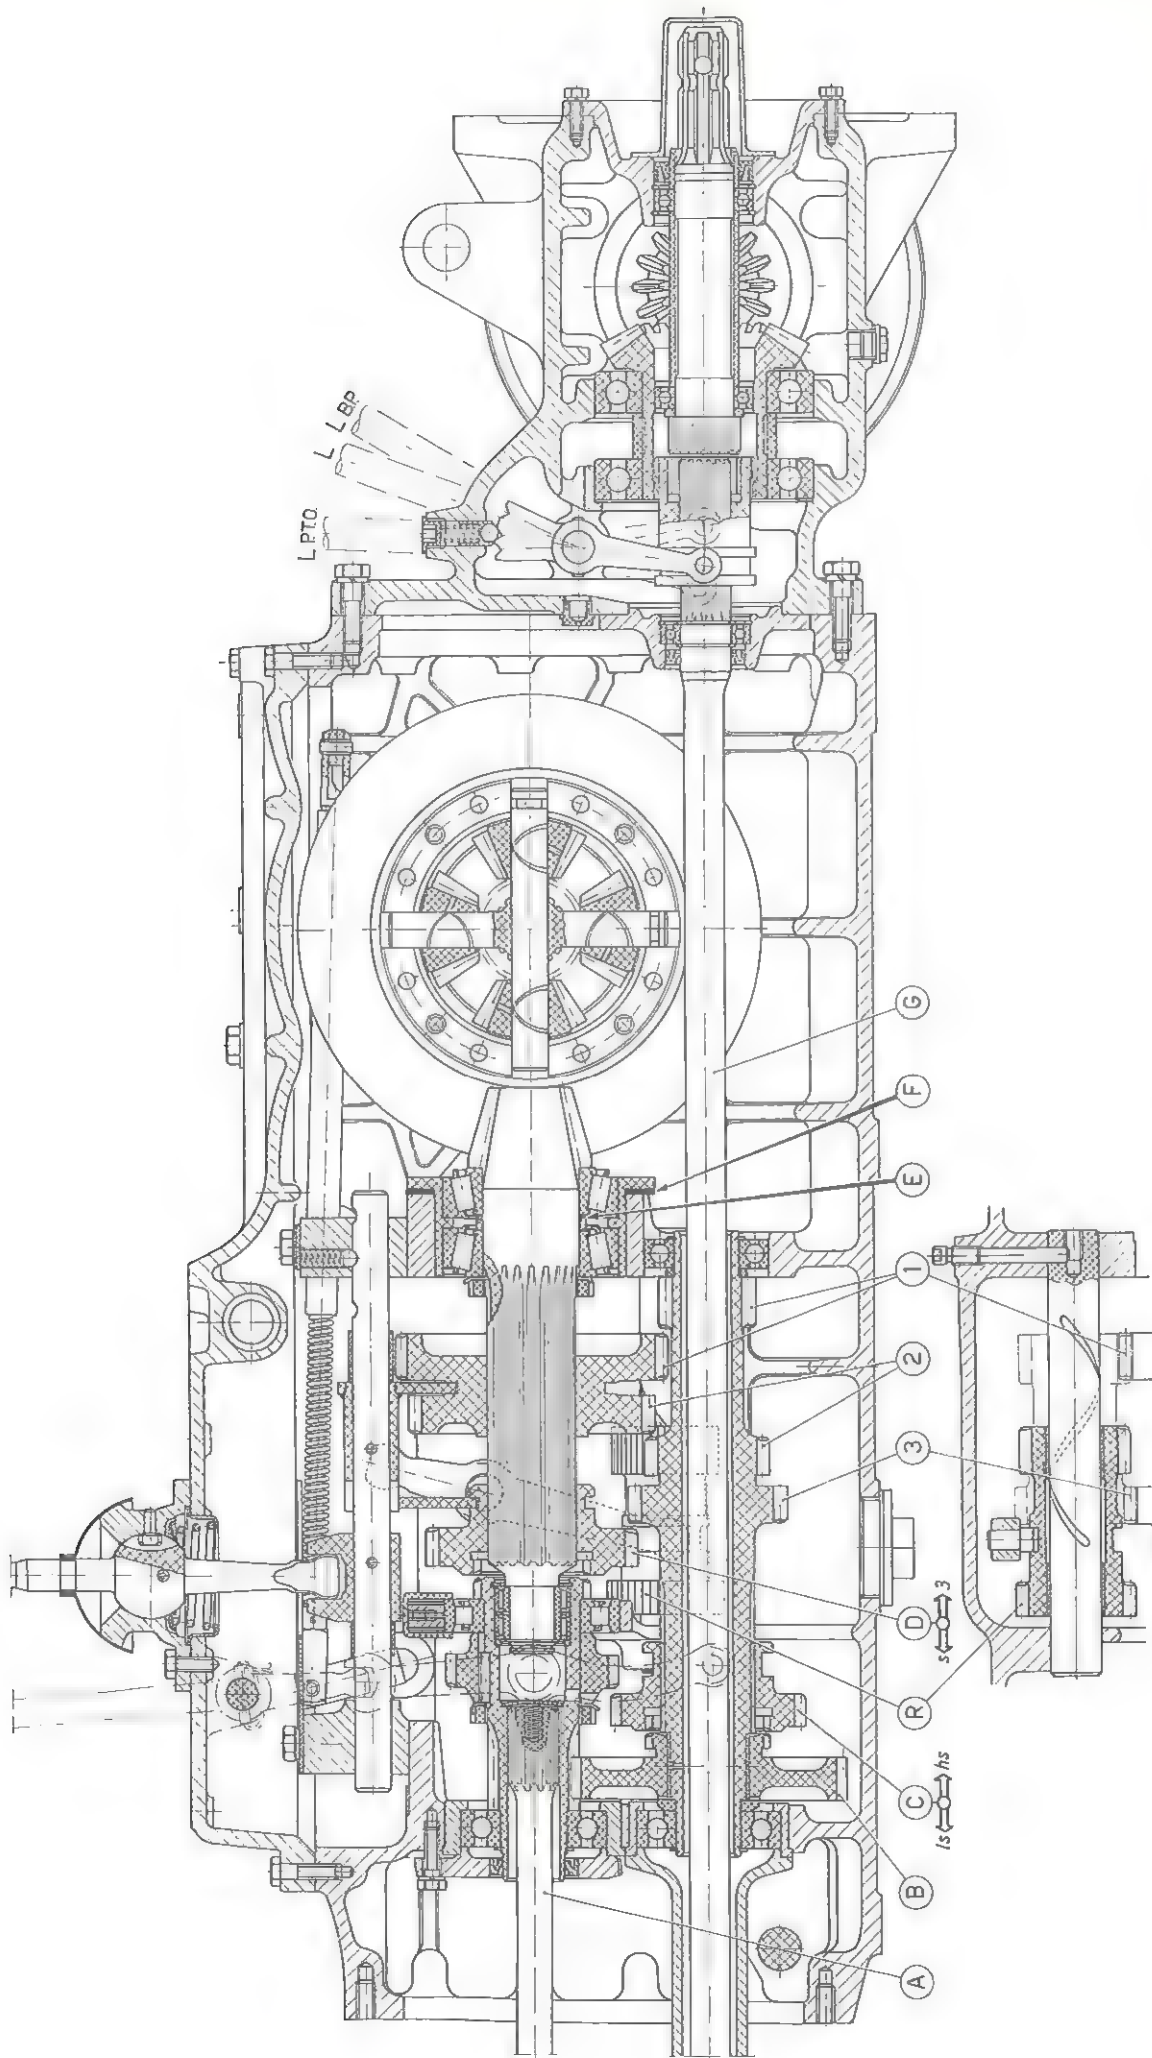
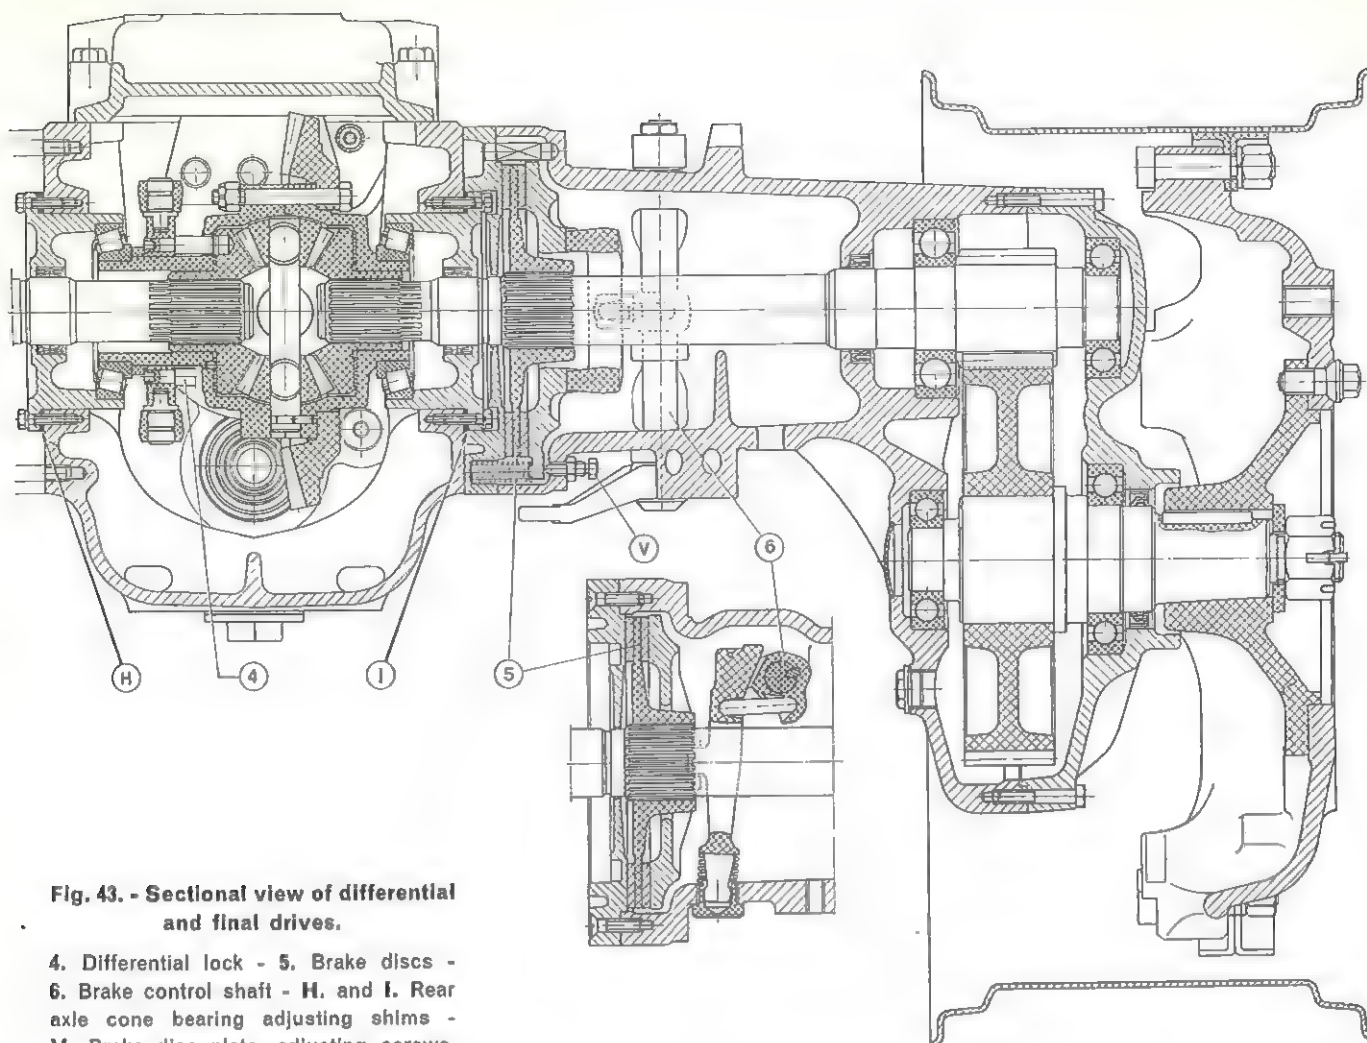

Fig. 41. - Longitudinal section of gearbox, bevel pinion and P.T.-O. unit.
Fig. 43. - Sectional view of differential and final drives.
Sectional views of the gearbox and rear transmission are shown in fig. 41 and fig. 43.
- place a suitable number of adjusting shims (F, fig. 41) in between the bevel pinion bearing sleeve and housing in order to establish between the pinion front end and the differential housing a clearance equal to:
Mount on the bevel pinion shaft the inner race with rollers of the bearing resting against the pinion shoulder, then the spacer, a pack of adjusting shims for a total nominal thickness of 0.110 in. (E, fig. 41), the bearing housing with the outer races and finally the inner race of the second roller bearing.
Mount the bevel pinion shaft with its gear clusters in the gearbox and after finding the shim pack thickness (F, fig. 41) through the method already described in the section concerning pinion face marking, lock the bearing housing using the proper screws.
Measure the clearance existing between the bearing housing side and the transmission housing face and add 0.008 in. to 0.012 in. (0,2 to 0,3 mm) to it in order to obtain the required thickness of adjusting shims (I, fig. 43) and a backlash of 0.006 to 0.010 in. (0,15 to 0,25 mm) between the bevel pinion and ring gear teeth. Fit the adjusting shims and lock the housing in place with two screws at 180° from each other. Repeat the same operation with the bearing housing on the differential lock side and build the pack of adjusting shims (H, fig. 43) according to the previously measured clearance. Fit the adjusting shims and lock the housing in place as above.
Exert a side thrust on the bevel gear in both directions to check the adjustment of the conical roller bearings. If end play exists, diminish the pack thickness of adjusting shims H, fig. 43. Increase it, instead, if there is no end play or possibility to rotate the bevel ring gear.
Apply a dial gauge on one face of any bevel ring gear tooth and slowly move the gear back and forth holding the bevel pinion still. Check the backlash between the bevel gear and bevel pinion teeth. The specified backlash is .006" to .010" (0,15 to 0,25 mm). If the gear backlash is not between the above limits, adjust it by changing the bevel gear bearing adjusting shims (H and I, fig. 43) in a suitable manner from one bearing cage to the other.